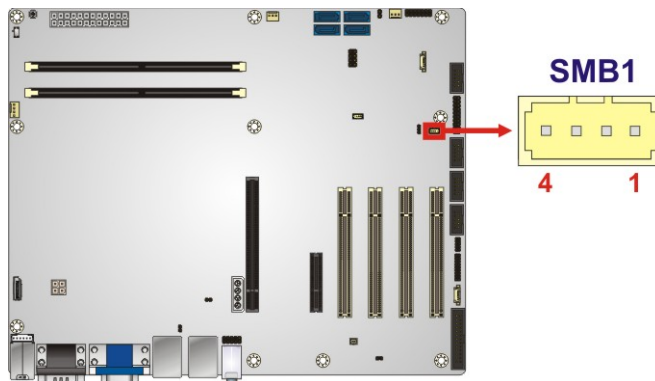

Figure 3-26: SMBus Connector Location
- CN Location:** See **Figure 3-26**